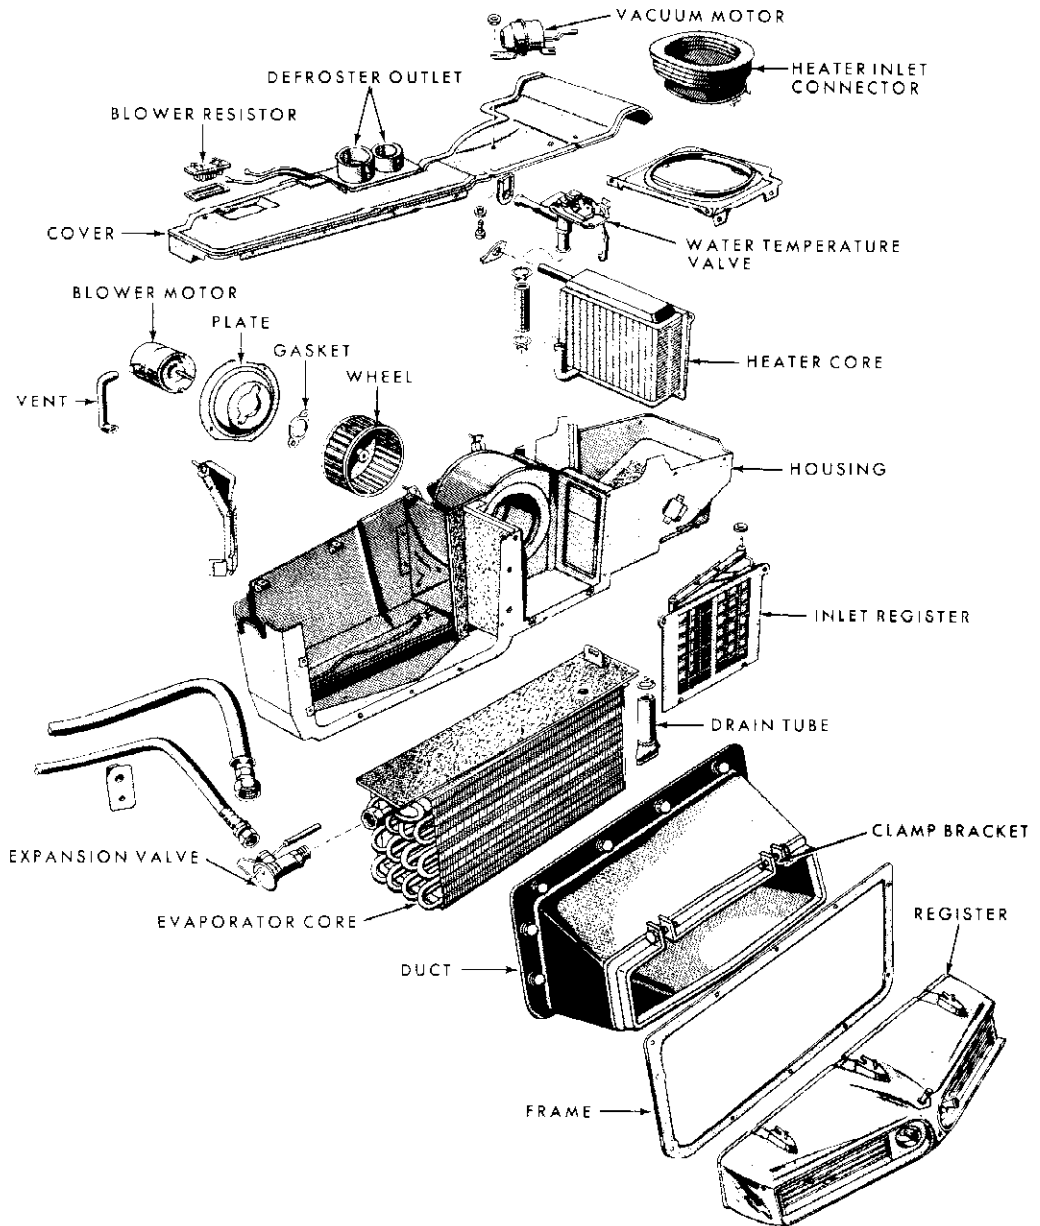

Fig. 4-9—Evaporator and Blower Housing Disassembled—1961—(61MM-8810)
1. Remove the evaporator to "Spot Cooler" duct clamp bracket retaining screws and remove the clamp brackets. Carefully pull the duct away from the "Spot Cooler." (See figure 4-9.)